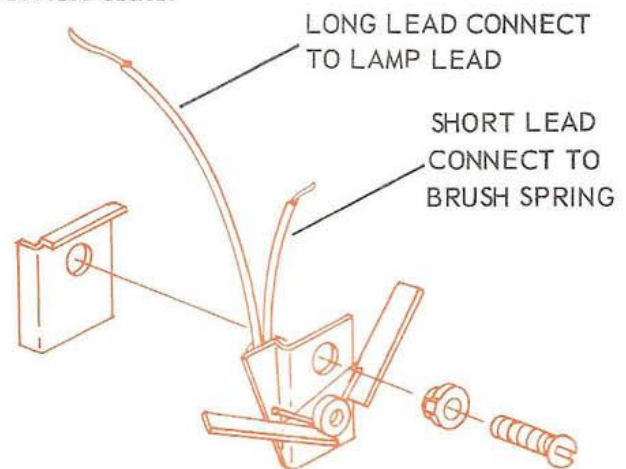

FIGURE 10
a. Remove four (4) screws retaining body to powered chassis assembly.
b. Rotate brush spring and slide out pick-up lead wire. This lead is the shorter of the two leads shown in figure 10.
c. Remove insulating sleeve covering connection between lamp lead and other pick-up lead, the longer lead shown in figure 10.